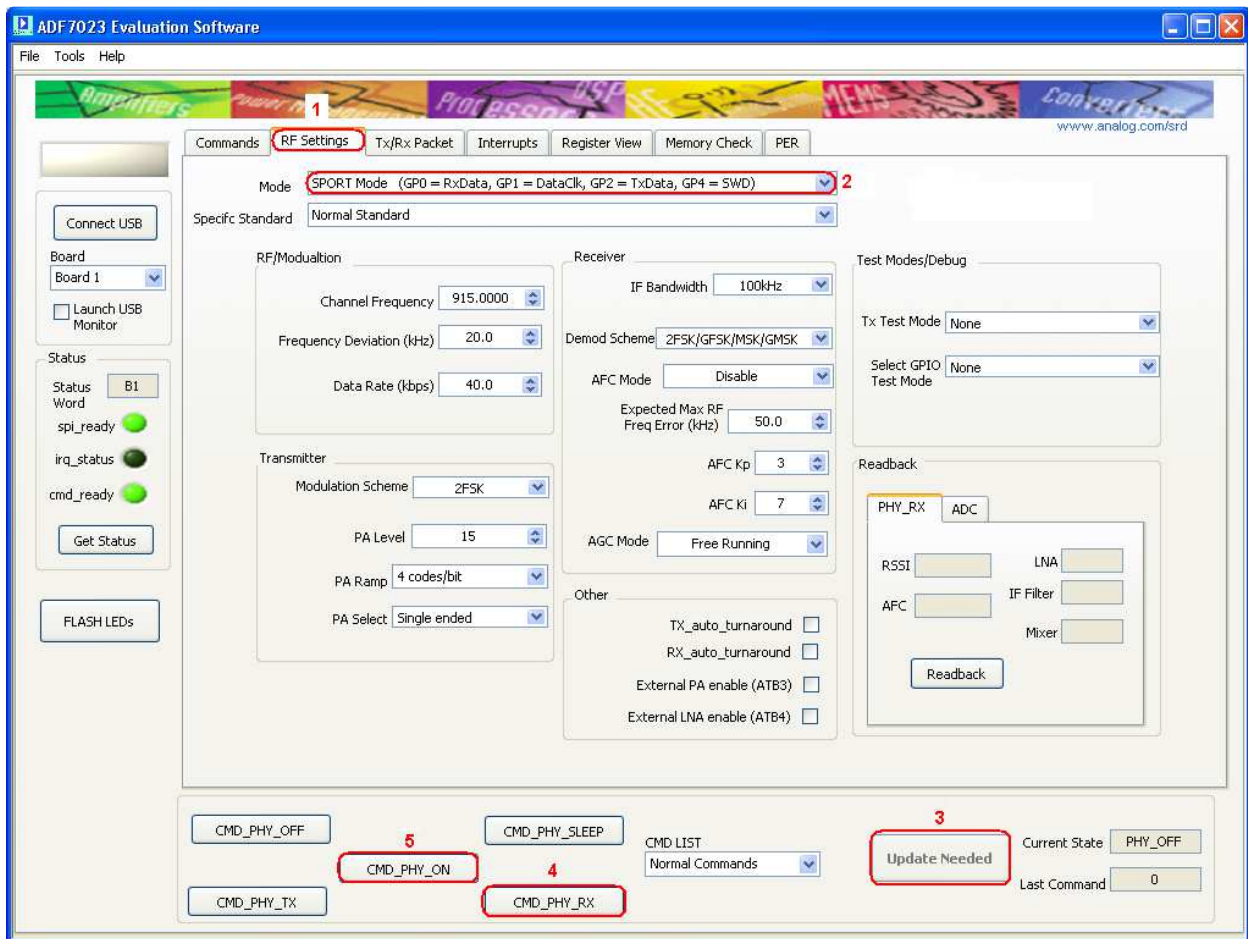

Figure 26
1. Select the “**RF Settings**” Tab and set the RF parameters as required. (Figure 26 point(1))
2. If not already in **PHY_ON** enter this state by pressing **CMD_PHY_ON**. (Figure 26 point (5))
3. Select the **SPORT Mode** (Figure 26 point (2))
4. Press **Update Needed**. This writes the settings to BBRAM and then does a CMD_CONFIG_DEV. (Figure 26 point (3))
5. Press **CMD_PHY_RX**. The part now enters PHY_RX. (Figure 26 point (4))
6. To exit **PHY_RX** press **CMD_PHY_ON** (Figure 26 point (5))